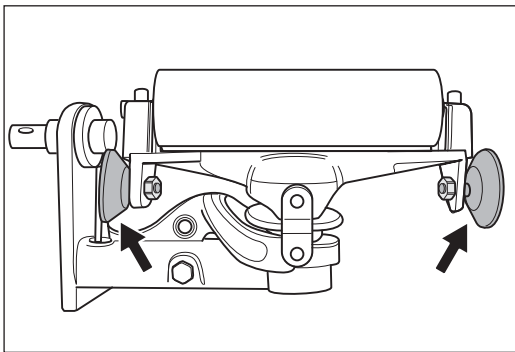

Fig. 37 The two guide rollers must be rotatable easily!
- The two guide rollers at the drive unit must be rotatable easily (Fig. 37)! Otherwise they must be replaced without fail (part number in *Section 11, Spare parts*)!